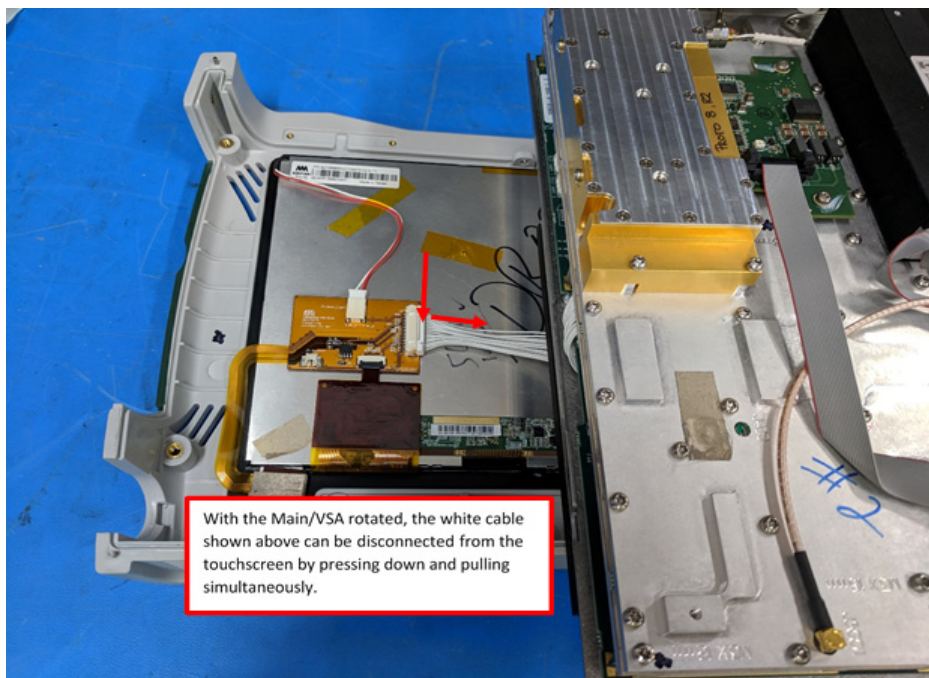

**Figure 5-7.** Main/VSA Rotated to Gain Access to Second Cable
9. With the first cable removed, the Main/VNA assembly can be rotated 90 degrees clockwise allowing for the second cable to be disconnected as shown in Figure 5-7.